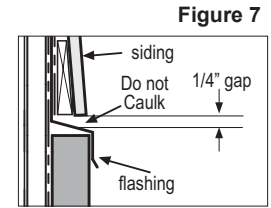

Figure 7
- Maintain a 1/4" clearance between James Hardie products and horizontal flashing (fig. 7).